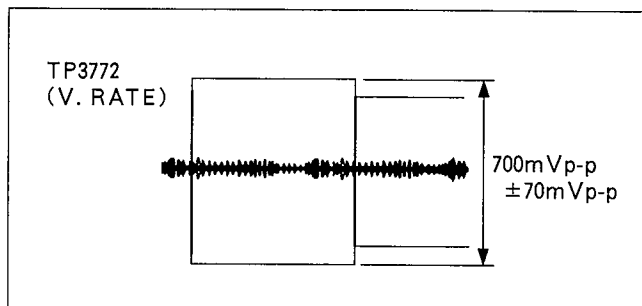

Figure E3
3. Adjust VR3771 so that the level becomes 700mVp-p ± 70mV as shown in Figure E3.